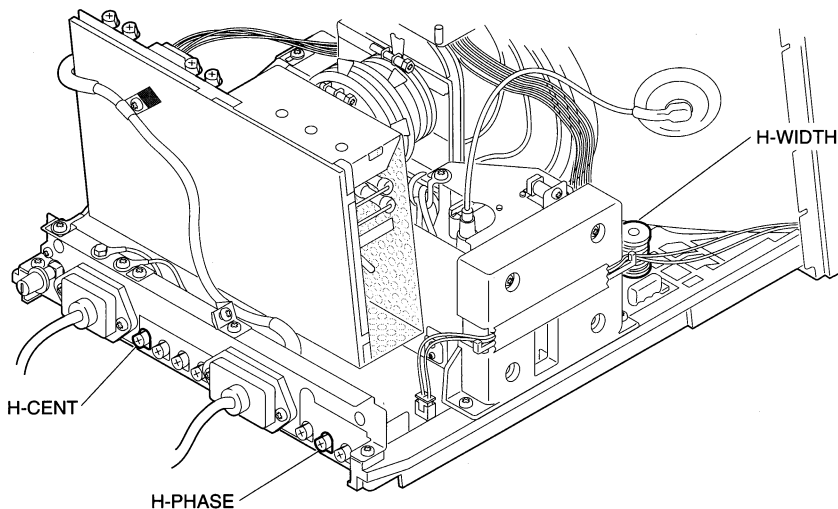

Figure 4 Horizontal Centering and Size Controls
4. FIGURE 4. Turn the H-PHASE control (VR501) until the raster is positioned at the visual midpoint of the range of the H-PHASE control.
5. FIGURE 4. Turn the H-CENT control (VR503) until the raster is positioned in the approximate center of the screen.
3. FIGURE 4. Using the hex-head insulated adjustment tool, turn the H-WIDTH control (L501) until the raster is 205 mm (± 2 mm) or 8 $\frac{3}{32}$ " ($\pm 1/16$ ") wide.